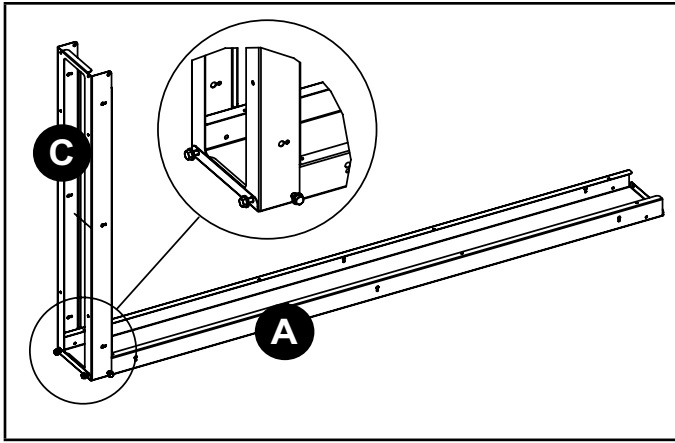

FIGURE 8. Assemble Front Panel (C) to Bottom Panel (A)
The cabinet sections are designed to be attached together. Align the edges as shown in figure 8.
- 1 - Place one Top / Bottom Panel A on a firm surface. Align front panel C into one end of side panel A (see figure 8). Attach Panel C to Panel A as shown in figure 8 using provided screws.